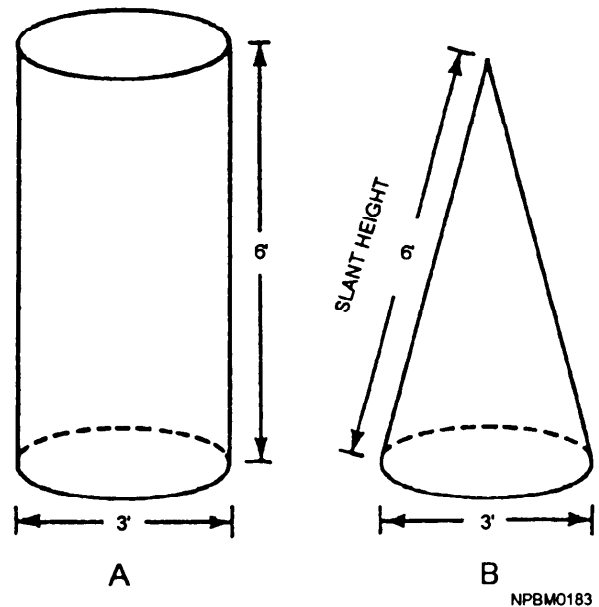

Figure 8-13.—Areas of cylinders and cones.
Example: Find the area of the side of the cylinder in view A of figure 8-13.
The formula for finding the area of the side of a cone uses a new dimension—slant height (SH)—which is the distance from the edge of the base to the apex of the cone. See view B of figure 8-13. The area may be found by multiplying half the slant height by the circumference of the base.
Example: Using the dimensions in figure 8-13, find the area of the cone.